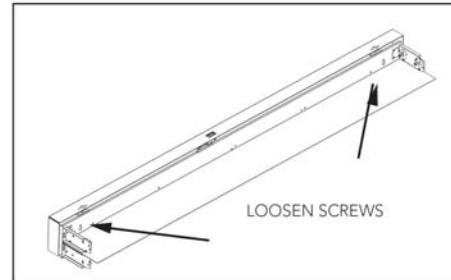

Figure 1
2. Loosen the two screws that hold the Reflector Assembly to the Backplate. (See Figure 1) Separate the Reflector Assembly from the Backplate.